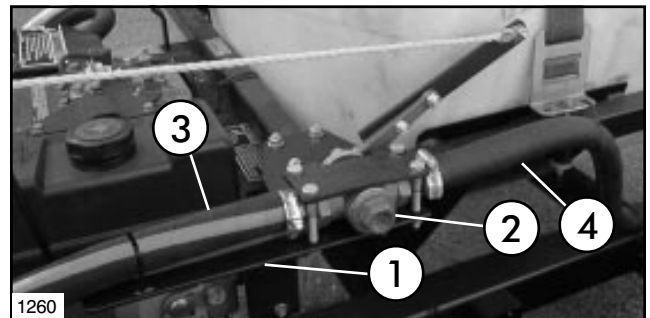

FIG. 10
10. Apply thread sealer and install a 3/4" x 1" hose barb into both ports in the Ratchet Valve. See FIG. 10.
11. Attach Valve Plate Top to Valve Plate over Ratchet Valve as, shown in FIG. 10, using (4) 5/16" x 2-1/2" cap screws and flange nuts.